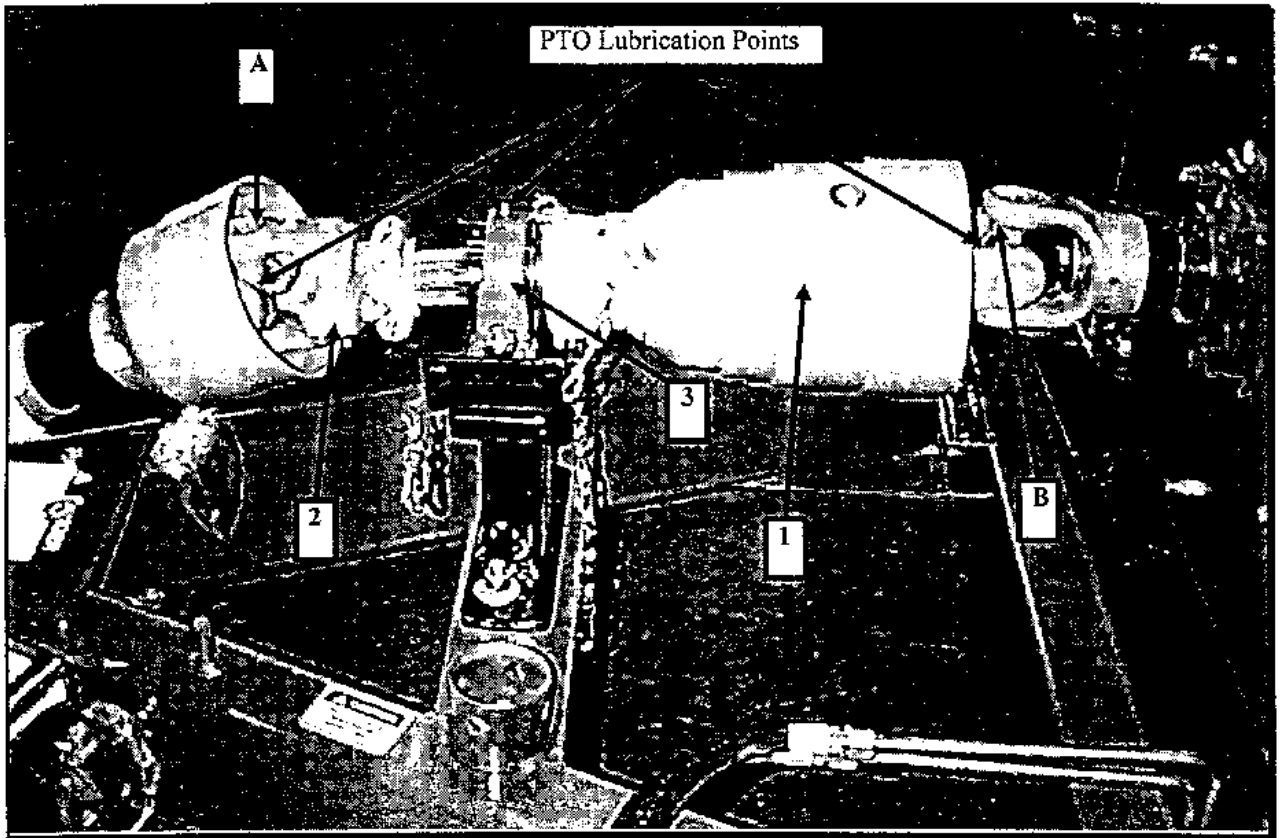

Figure 4 PTO Installation & Lubrication
Ensure that the U-joint cross on the front PTO shaft (A) is in line with the U-joint cross on the secondary PTO shaft (B). See Figure 4. Failure to do so will result in unbalanced operation and shear bolt breakage.
Maintaining proper lubrication of the Bale Pro 7700 is crucial for trouble free operation. Figures 4, 5 and 6 show 12 points which require regular greasing. Below is a list of the lubrication points and the frequency of greasing of these points.